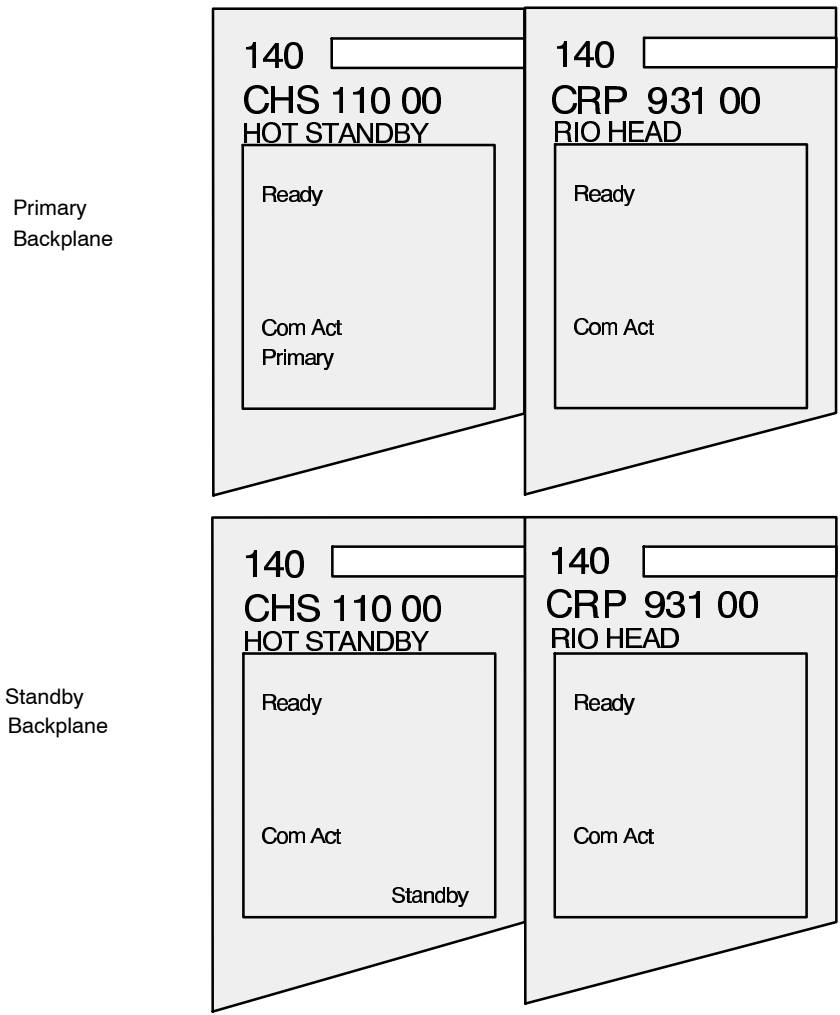

Figure 32 Indicators of a Properly Functioning Hot Standby System
Step 7 Check the LED display. If the system is functioning normally, the display should match Figure 32. On the CHS 110 module, all three indicators should be steady, not blinking. A blinking **Com Act** light signals that your system has detected an error. On the corresponding CRP module, the **Ready** indicator will be a steady green. The **Com Act** indicator on the primary unit should also be a steady green, while the **Com Act** indicator on the standby RIO head should be blinking slowly.